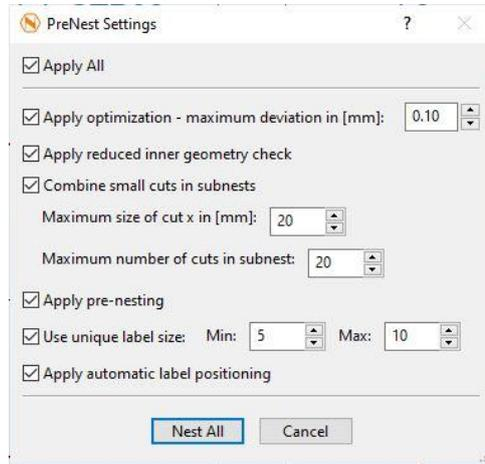

Figure 122
- For our Bulkhead cuts the standard values are fine (everything is checked as indicated in Figure 122). Proceed with Nest All.